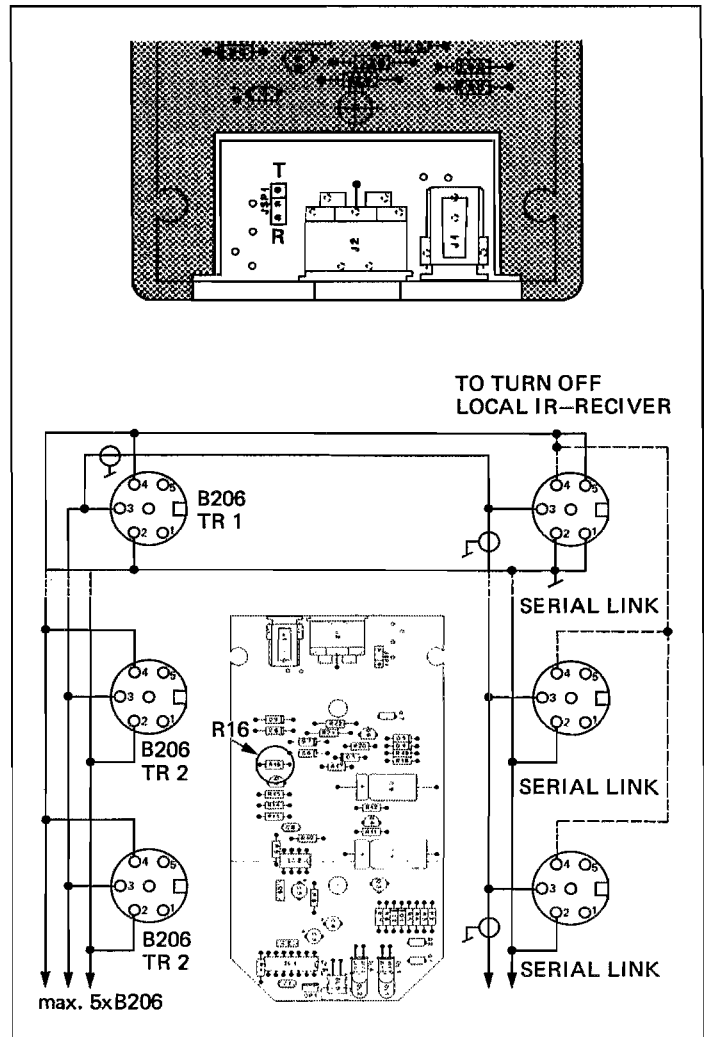

Fig. 4.1
2. Wire DIN connector for B206 Transceiver and the SERIAL LINK socket according to Fig. 4.1.
As can be seen from Fig. 4.1, several B206 Transceivers as well as several REVOX units can be connected in parallel with SERIAL LINK sockets. The installation must be executed very carefully and the connecting cables should be prepared by an experienced technician.
* On all units with SERIAL LINK the internal IR receiver can be switched off. (In the connector link pin4 with pin5, as well as pin1 with pin 2. Caution in the case of parallel-connected units: see Fig. 4.1.)